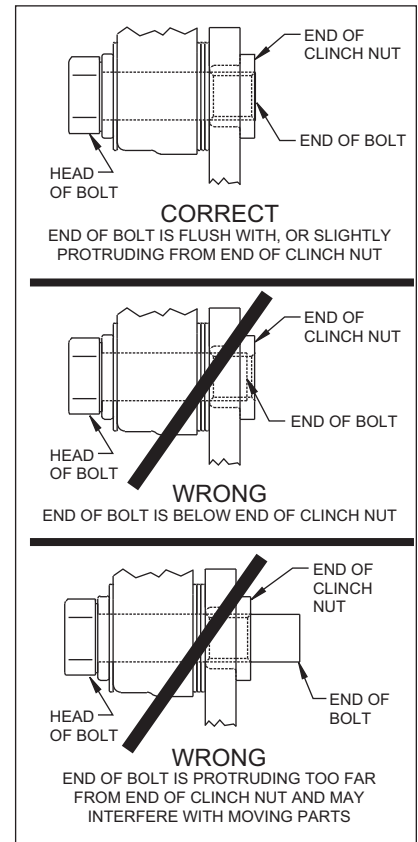

Figure 4.
- Install the dust cap (15) onto the hub (5). Friction created by the o-ring (14) on the dust cap (15) keeps it from unscrewing. The O.D. of the existing spindle washer may be larger than the I.D. of the dust cap (15) which may allow the washer to contact the dust cap (15). Use the spindle washer (13) supplied with the kit instead of the stock washer.
- NOTE:** Please reference the caution statement at the beginning of the assembly instructions. Mount the caliper (16) onto the caliper bracket (1) using two bolts (18), two washers (17) and four flat washers (20). Finger tighten. View the rotor (9) through the top of the caliper (16). The rotor (9) should be aligned in the center of the caliper (16). If not, loosen the two bolts (18) and adjust the caliper (16) by using 0.032 inch thick shim washers (19). The shim washers (19) should be placed between the caliper (16) and the flat washers (20). Finger tighten and recheck alignment. Add as many shim washers (19) as necessary to achieve the correct alignment. **NOTE:** The end of the bolt must be flush with or slightly protruding from the head of the clinch nut. See Figure 4. Place spare shims (19) between washer and caliper mounting ear to achieve the proper mounting fastener configuration. Always use the same amount of shims on both the top and bottom caliper mounting bolts (18). Loosen the two bolts (18) and apply red *Loctite*® 271 to bolt threads (18) and torque to 40 ft-lb. Safety wire the two bolts (18).